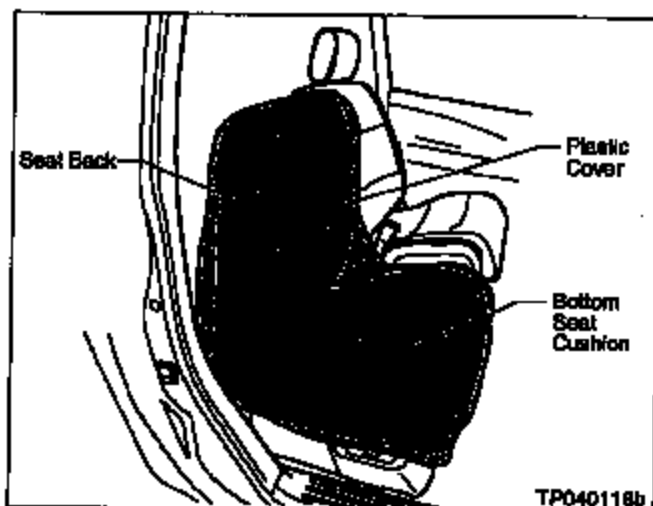

Figure 4
8. Install the provided Plastic Cover over the seat (see Figure 4).